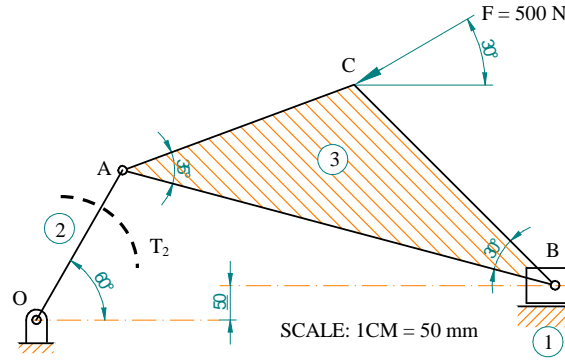

Fig. 6a
- b) Determine  $T_2$  for the static equilibrium of the mechanism shown in Fig. 6a, given;  $OA = 250$  mm and  $AB = 650$  mm. 12